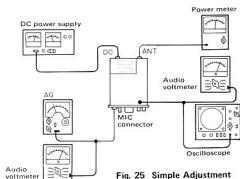

Fig. 25 Simple Adjustment of Modulation Factor
- (1) Connect as shown in Fig. 25.
- (2) Apply a signal of 1 kHz 15 mV from the microphone terminal, and adjust VR4 until the AF valve voltmeter connected to terminal T reads 0.54 V.
- (3) Adjust the AG output to 1.5 mV, and adjust VR3 until the voltage at terminal T is 0.35 V.